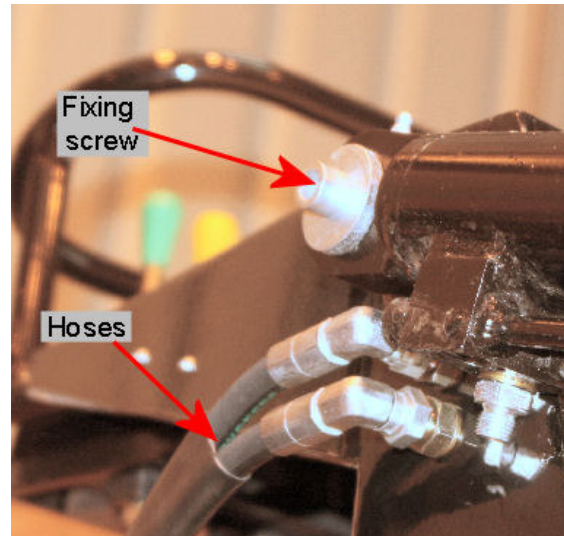

Fig 5-5 Ram connections and fixing
2. Disconnect the hydraulic hoses at the Ram (Fig 5-5). Plug the hoses and take care to avoid oil spillage as this can be an environmental hazard.
4. At the cylinder end of the Ram, remove the socket head fixing screw (Fig 5-5).